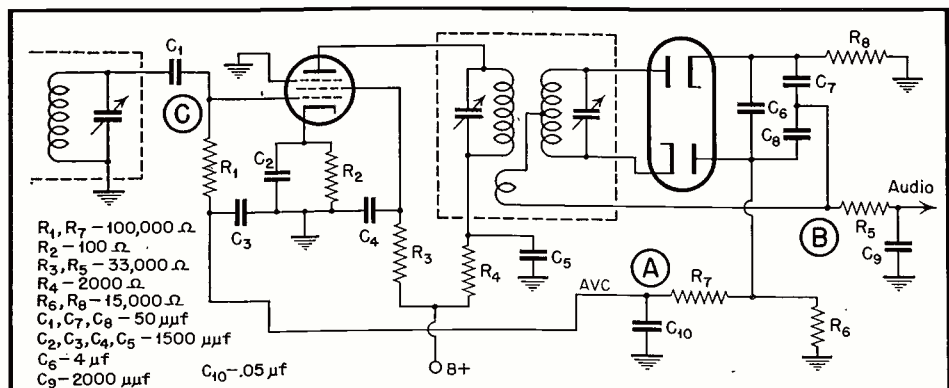

Fig. 3—Ratio detector circuit.
*Figure 3* shows a typical ratio detector circuit similar to the one used in the well-known Pilot FM tuner. The theory of operation of the ratio detector is such that amplitude modulated signals cancel out and only frequency modulated signals are detected. This eliminates the need for a limiter. At the present a "controversy" bordering on a feud is still going on between those who feel the Armstrong system with its limiter and discriminator is superior and those who believe that the elimination of the limiter is highly desirable and the ratio detector is, therefore, more desirable. (The writer feels that both circuits have merit but that this is not the place to argue about it).